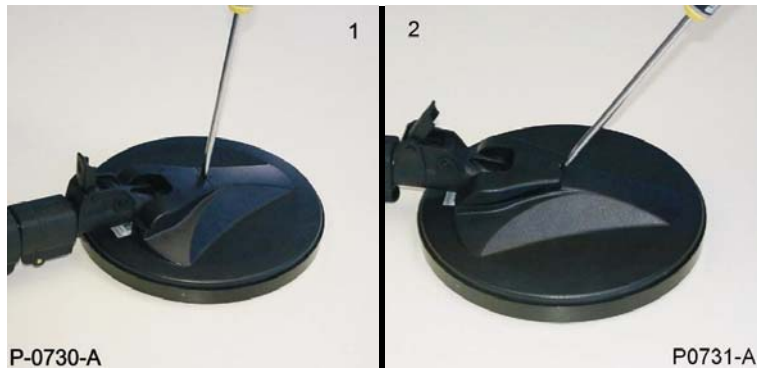

Figure 16: Removing the Coil Retainer
- Maintaining firm downward pressure on the 6.5mm screwdriver, carefully lever the coil retainer cover off the coil top and remove it. (Figure 16)